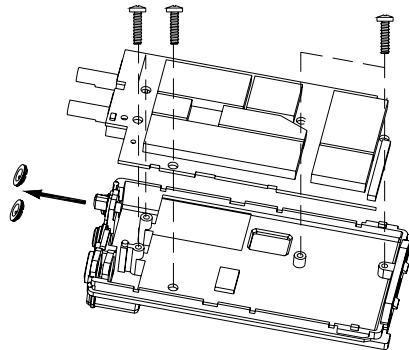

Fig.4
- Lift the PCB off. (See fig.4)